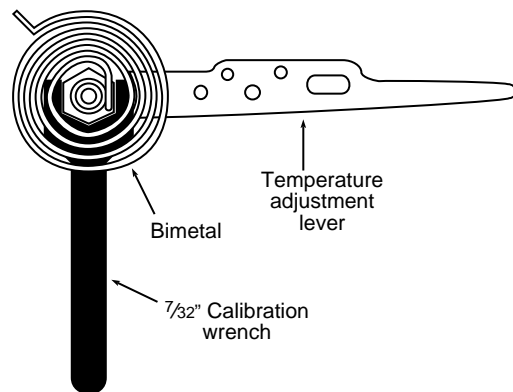

Figure 10. Calibrating thermostat
3. Remove thermostat cover. Slip $\frac{7}{32}$ " wrench onto hex nut beneath bimetal (see fig. 10). While holding temperature adjustment lever stationary, turn hex nut clockwise until movable contact moves off of magnet.
7. Slip $\frac{7}{32}$ " wrench onto hex nut (see fig. 10). While holding temperature adjustment lever stationary, turn hex nut counterclockwise until movable contact just closes against magnet.